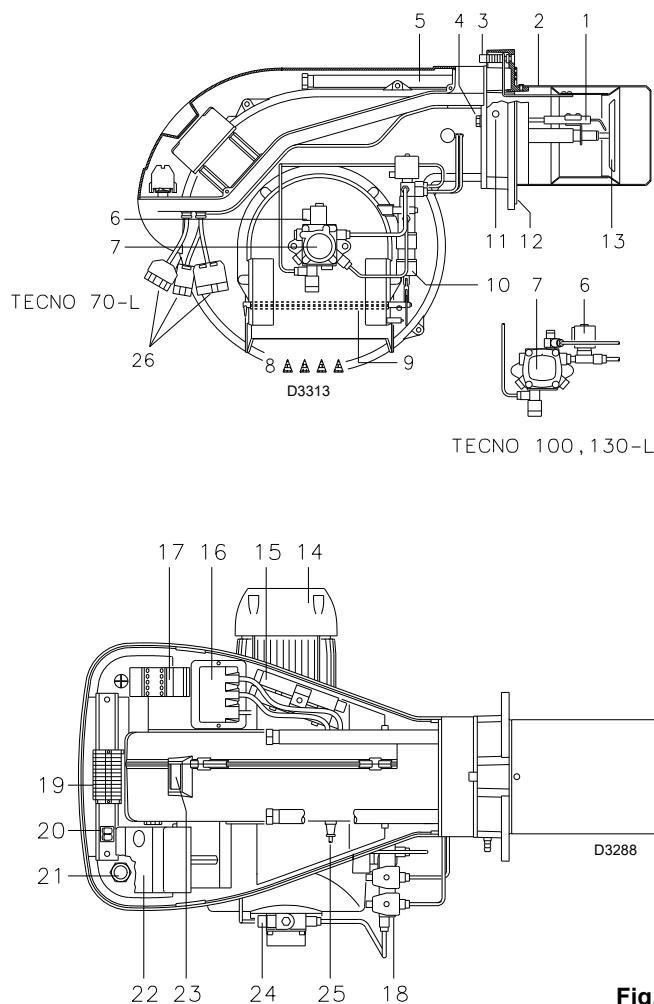

Fig. 2
- 2 - Extensions 15) (Fig. 2) for slide bars 5) (Fig. 2)
3.3 Burner description (Fig. 2)
Control box lock-out: if the control box 22)(Fig. 2) pushbutton (red led) lights up, it indicates that the burner is in lock-out. To reset, hold the pushbutton down for between 1 and 3 seconds.
Motor trip: release by pressing the pushbutton on thermal cut-out 17)(Fig. 2).